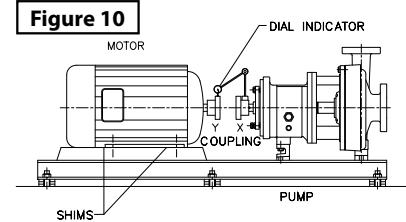

Figure 10
**Vertical:** Consist of installing a dial indicator (see Figure 10) in the top half of the coupling "X" leaving it fixed, and four cardinal points in the half of the "Y" coupling are inspected. If readings exceed 0.002" (0.05mm), means that the motor is offset from the top down, install or remove equal amounts of shims at the motor feet, to correct the readings.